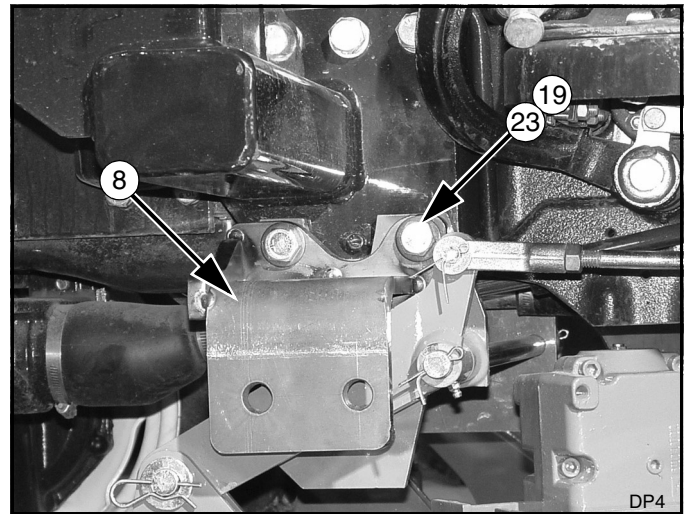

Figure 6. Left Front Mount Installed
2. Attach left front mount (8) to tractor using two cap screws (20) and hardened flat washers (23). If mid-mount is installed use cap screws (19). See Figure 6.